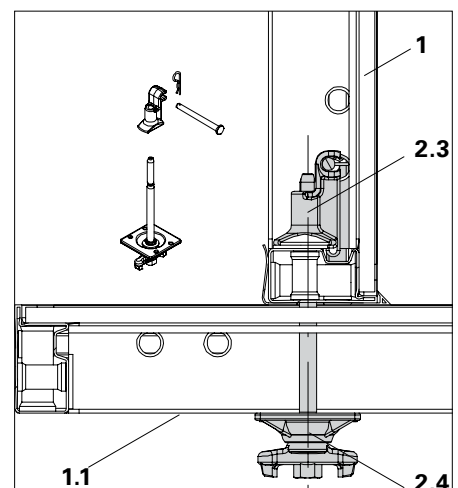

Fig. A3.01b
4. Screw TRS Clamp (2.4) into the Inserting Nut from the outside and tighten. (Fig. A3.01b)
If two Column Panels TRS, 120 cm wide, are connected together, they may only be connected by means of the connection variant "Connection with TRS Inserting Nut when using ladder access". (Fig. A3.01b)